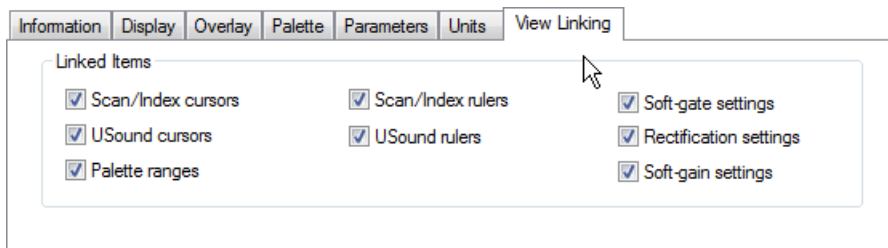

Figure 10-7 The View Linking tab of the Properties dialog box
3. In the **Properties** dialog box (see Figure 10-7 on page 451), select the **View Linking** tab, and then select the check box for the items that you want to be linked for this view.